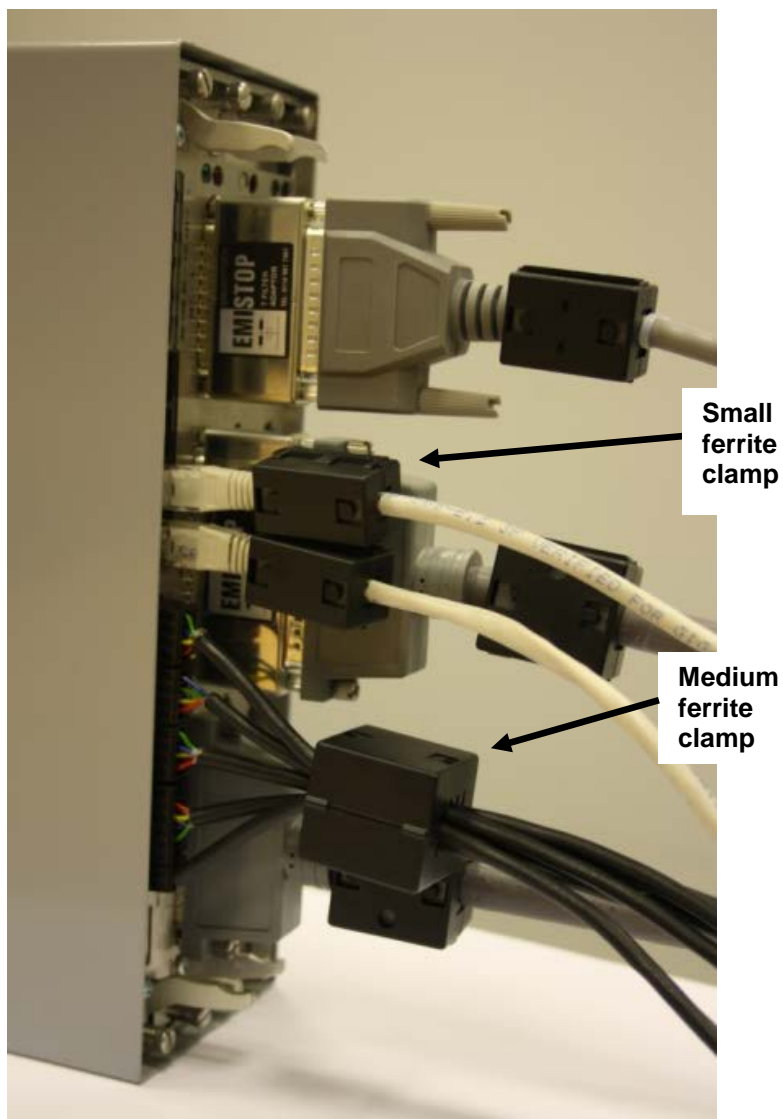

Figure 2-16. Clamps on CPU Module COM and Ethernet Connections
8. Attach a medium ferrite clamp onto the wiring for COMs 5, 6, and 7 and a small ferrite clamp onto the Ethernet cable (see *Figure 2-16*).